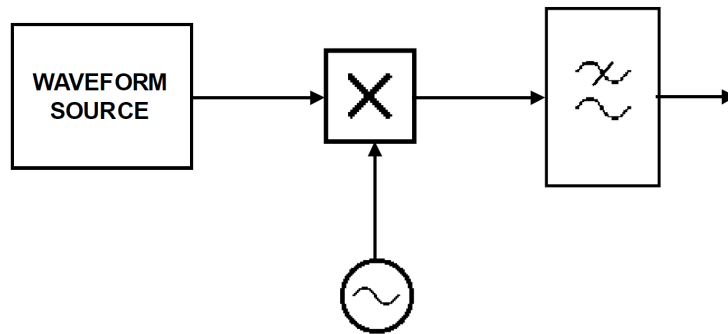
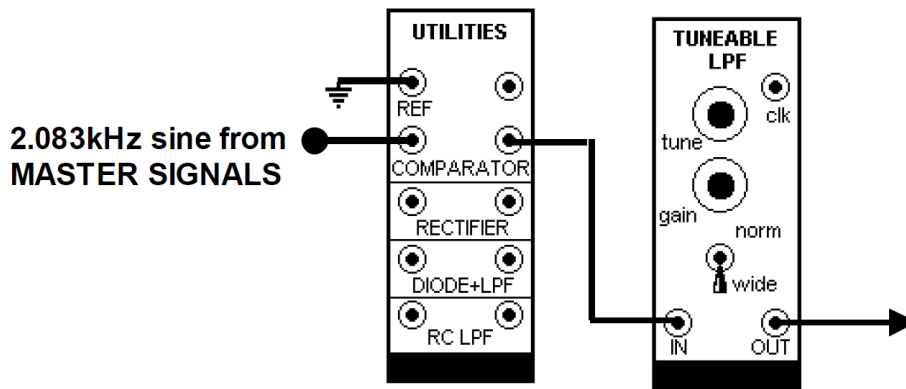

Figure 1: Block Diagram of Wave Analyzer
Figure 3: Task 2 - Smoothing of a square wave
We first see the operation of wave analyzer. Figure 1 shows the block diagram of wave analyzer. It is just a multiplier that multiplies the reference known signal to the waveform under consideration. We use an oscillator (VCO) to provide a reference sine-wave. As shown in Figure 3, an analog MULTIPLIER generates the product of this signal and the waveform under consideration.
1. Patch the TMS model in Figure 3. Set the TUNEABLE LPF switch to WIDE to allow tuning up to 12 kHz. Set the TUNE knob fully clockwise and the GAIN knob near 12 o'clock. Display the filter input and output on scope.